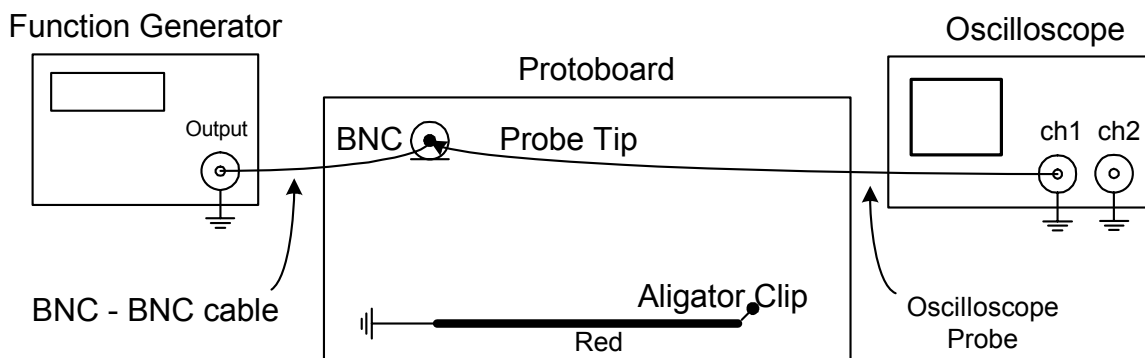

Figure 4.1
- Step 2:** Connect the output voltage of the function generator to CH1 of the oscilloscope (using the protoboard) as shown in Figure 4.1.